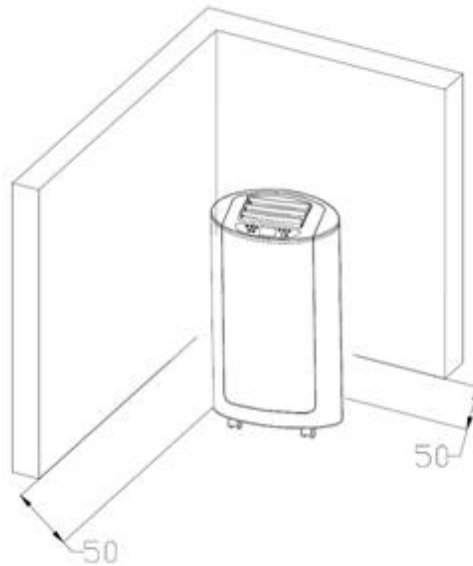

**Figure 3**
3. Installation of window kits. Partially open the window and then fix the window kits to the window (Figure 3 & 4 below).